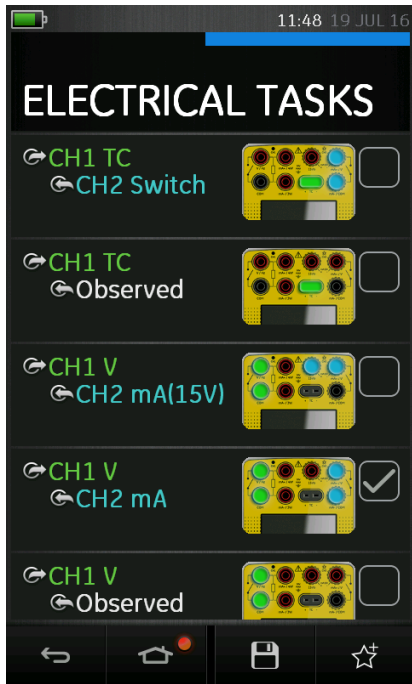

Figure 2-3 Selected Task
3. Functions can be copied to FAVOURITES (refer to section 2.2.3) by selecting (tick) as shown in Figure 2-3 and selecting Copy Task .